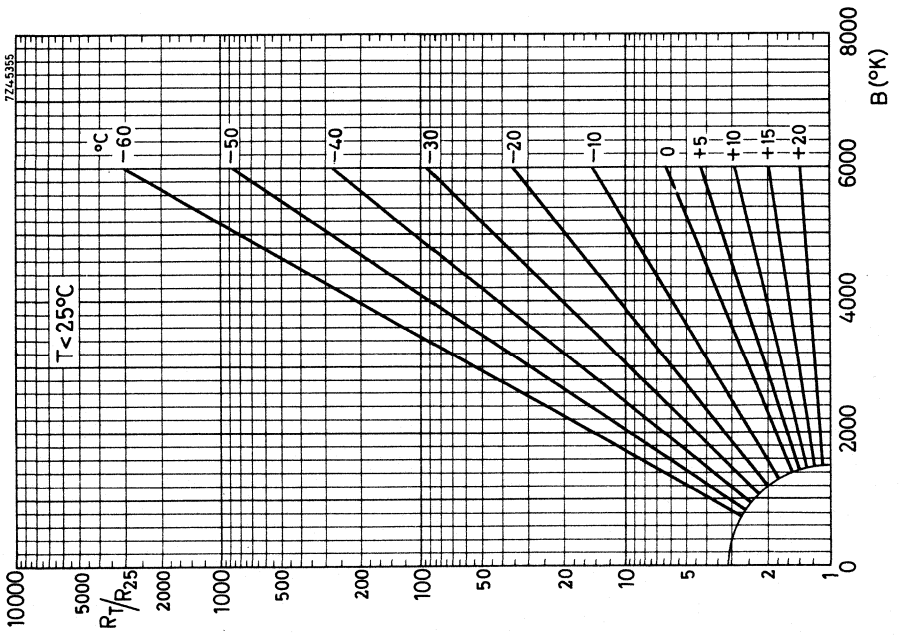

Fig. 2 R_T/R_{25} as a function of B-value with temperature as a parameter.
e.g. a value of 3600 yields $\alpha = -4\%$ per K at a temperature of 300 K. For calculating the resistance of an NTC at a particular temperature, when R_{25} and B are given in the data, the graphs of Figs 2 and 3 may be used, where for different B-values R_{25}/R_T and R_T/R_{25} are plotted against the B-value with the temperature of the NTC thermistor as parameter.